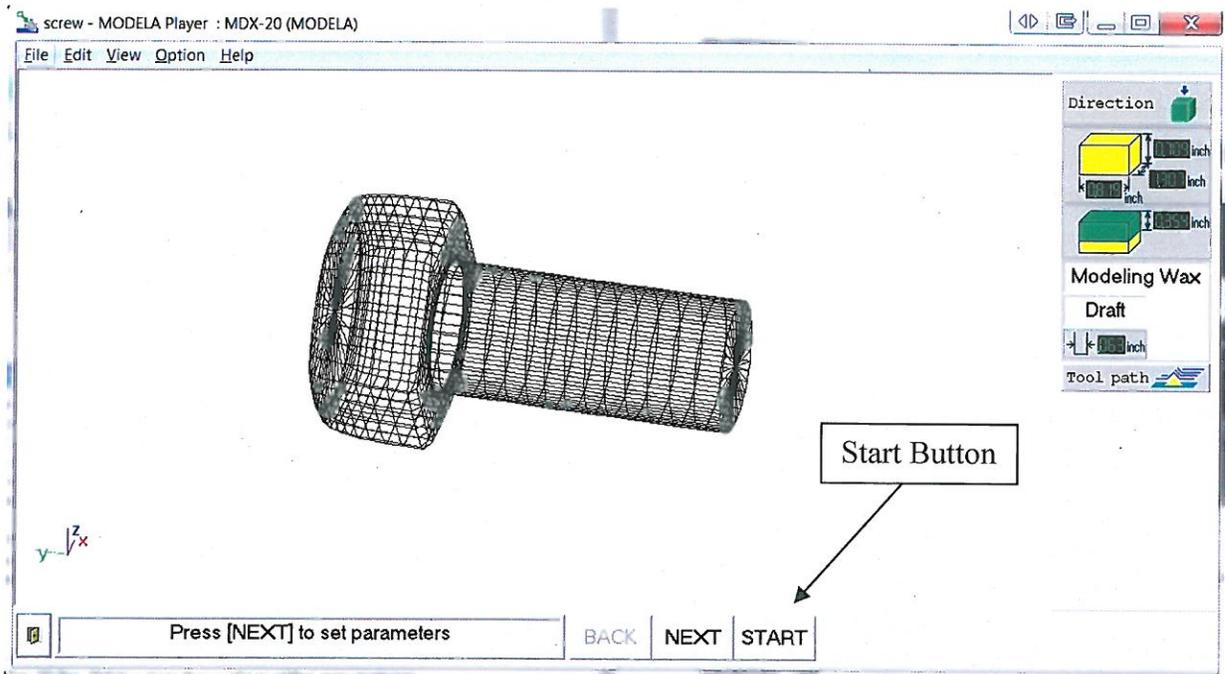

Figure 18: Model Player Interface
19. Press the **START** button located at the bottom of the screen. This first run should be the **DRAFT** run (Figure 18).